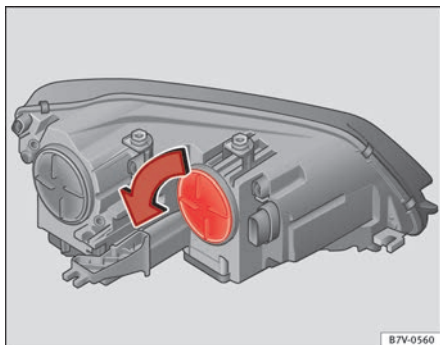

Fig. 205 In the engine compartment: Turn signal cover.
3.	Rotate the cover ⇒ fig. 205 in the direction of the arrow and remove it.
8.	Rotate the cover ⇒ fig. 205 in the opposite direction to the arrow as far as it will go.